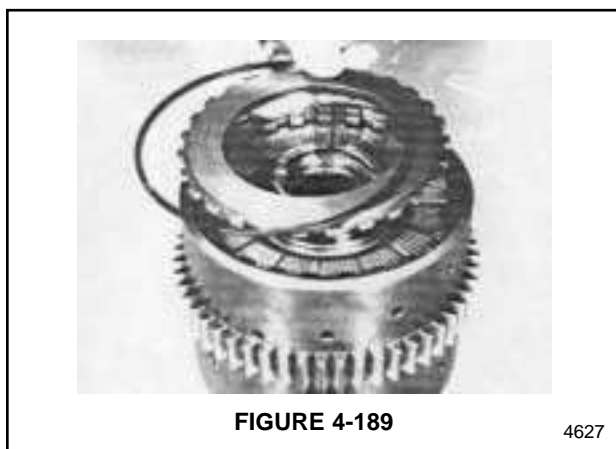

FIGURE 4-189
9. Install the backing plate and then install the snap ring to hold the backing plate in place. See Figure 4-189.